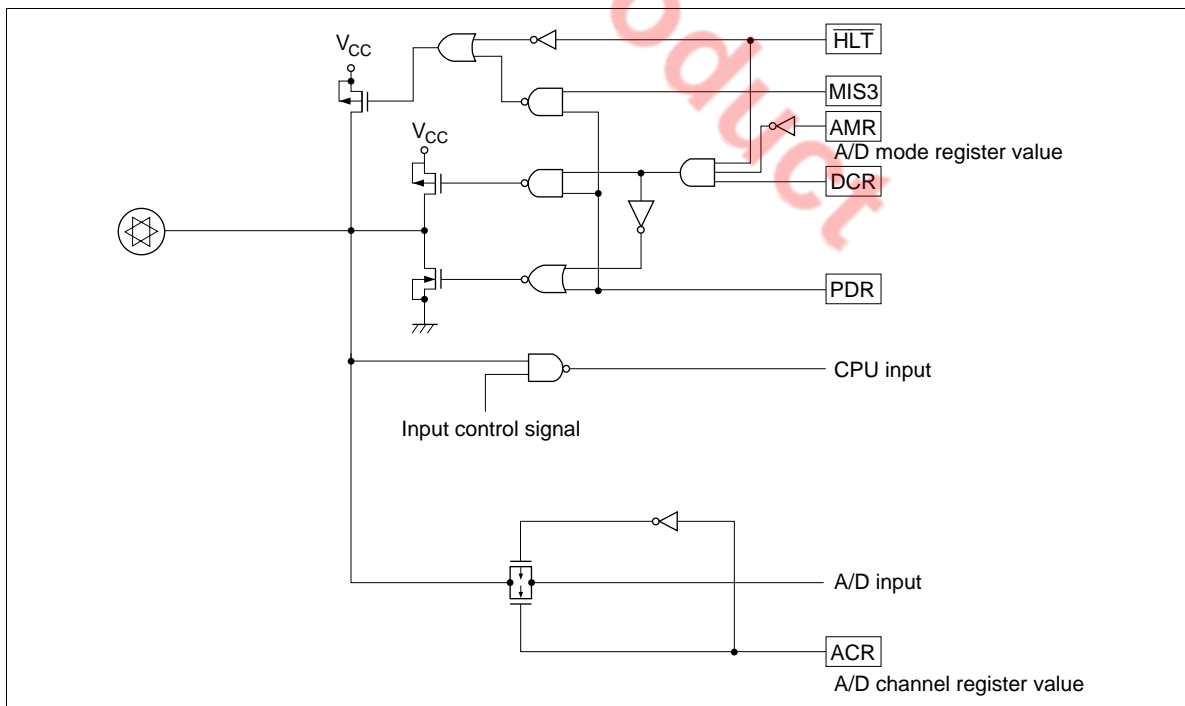

Figure 78 R Port/Analog Multiplexed Pin Circuit
- The port data register (PDR) is initialized to 1 by an MCU reset. At this time, if pull-up MOS is selected as active by bit 3 of the miscellaneous register (MIS3), the port will be pulled up to  $V_{CC}$ . When using a shared R port/analog input pin as an input pin, clear PDR to 0. Otherwise, if pull-up MOS is selected by MIS3 and PDR is set to 1, a pin selected by A/D mode register 1 or 2 (AMR1 or AMR2) as an analog pin will remain pulled up (figure 78).